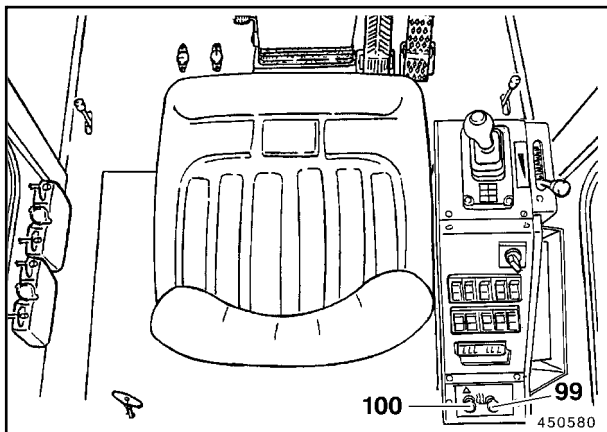

Fig. 2
- Push in heating control draw-button (99, Fig. 2) completely. The heating is off.